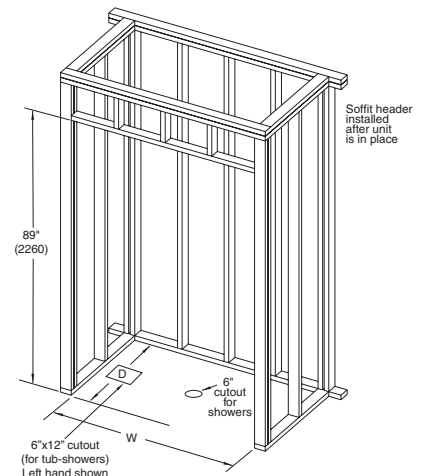

Fig. 1 Framing
- 6" (150) diameter floor opening for 2" (50) IPS and drain connection [Fig. 1] for shower unit.
- 6" x 12" (150 x 305) diameter floor opening for drain and overflow plumbing [Fig.1] for tub-shower unit. Be sure hole location matches type of tub-shower: left or right hand unit.
6. Level unit for proper drainage. Use a 3' (915) long level on top of dam and on front face. Shim where necessary to assure level unit, or depress grout mounds until level.
7. Install soffit header above unit as shown in Fig. 1.
8. Using holes provided, screw [do not nail] unit to framing. For wood framework, use #8 x 1 1/2" (40) flathead wood screws. For metal framework, use #8 x 1 1/2" (40) sheet metal screws. Start at holes at lower left and right, proceeding upward alternately on each side and across the top. Drive screws snugly but do not overtighten. **CAUTION:** Do not nail into face of mounting flange. Do not strike flange with any tool. Striking unit may cause irreparable damage.